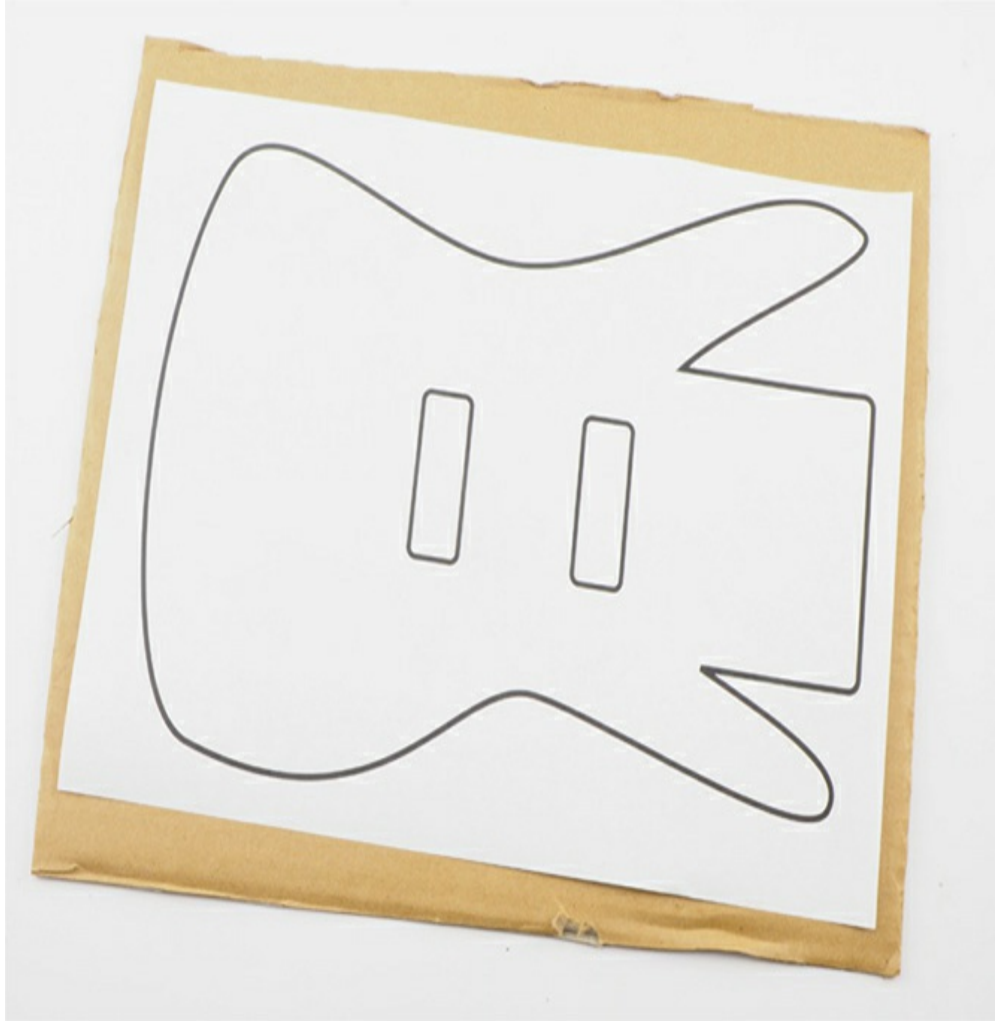

*Figure 3-2: Attaching the micro:bit to a speaker*
1. Connect the speaker to the micro:bit using the three alligator cables, as shown in Figure 3-2.
8. Flip the whole thing over and connect the micro:bit and speaker, as shown in Figure 3-7. Reference Figure 3-2 if you need help with the connections.